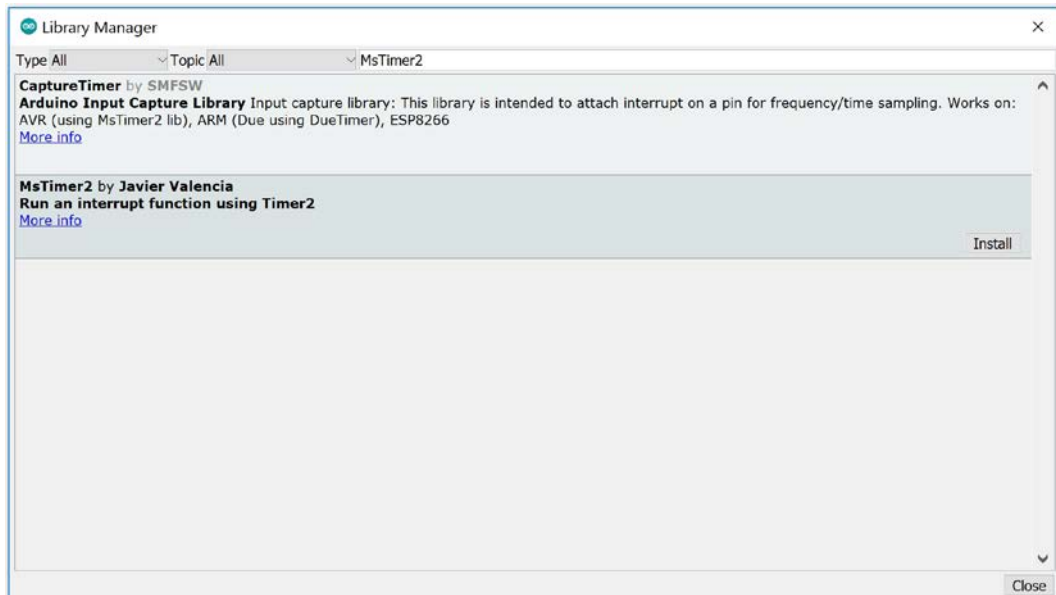

Figure 3: Example of how to install a library.
3. Click at the library you want, and click on *Install*. It might look as figure 3.